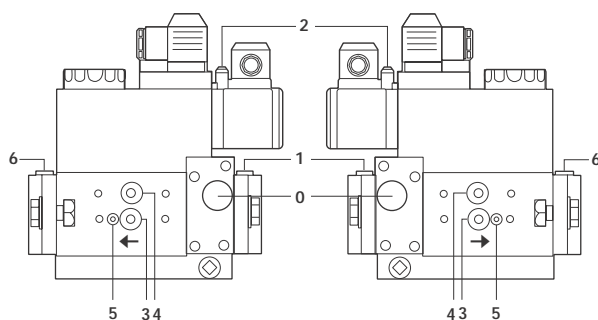
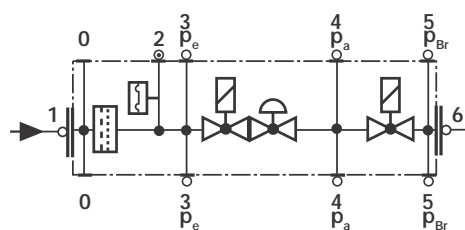

Fig. 32
Fig. 33
- Change the filter if the pressure difference between pressure connection 1 and 3 (Fig. 32-Fig. 33) is $\Delta p > 10$ mbar.
- Change the filter if the pressure difference between pressure connection 1 and 3 (Fig. 32-Fig. 33) is twice as high compared to the last check.